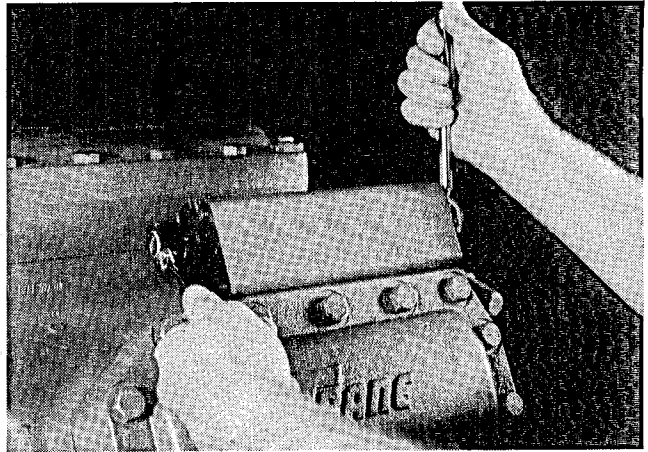

Figure 17
5. Remove the lock nut and washer at the piston end of the valve stem (Figure 17). This is the nut with the 15 foot pounds torque.
3. Attach the washer and lock nut at the piston end of the valve stem. Tighten the lock nut to final torque (Figure 17). TORQUE — 15 FOOT POUNDS.